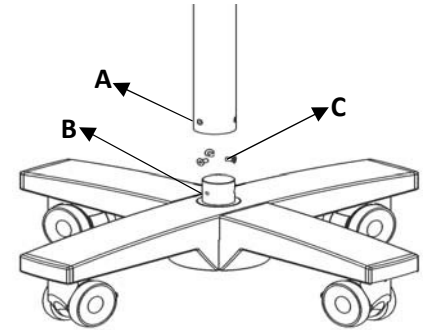

Fig. 7
1. Open the microscope box. Take out (column) from the box. Mount the column onto a shaft in base by aligning the corresponding holes in Column (A) and shaft (B). Secure it with (3) M6x16mm Allen Screws (C) using 4mm Allen Key as shown in Fig. 7.